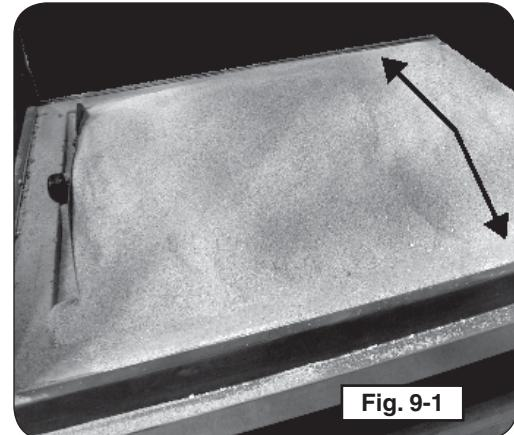

Fig. 9-1
1. With the burner off, fill the burner pans completely with sand or vermiculite (PARTS LIST, Item #10). Slope the media at the same angle as the burner pan (see Fig. 9-1).